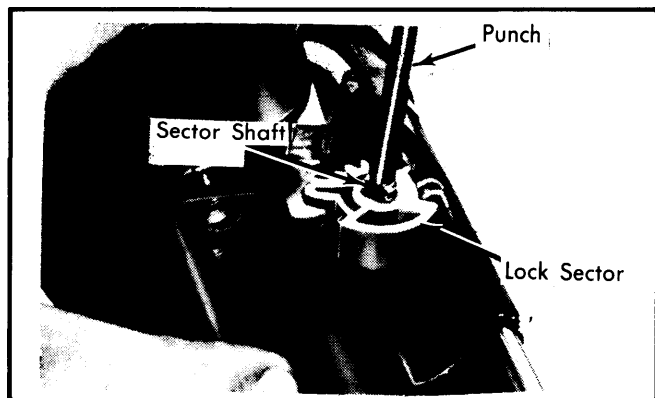

Fig. 17 Removing Lock Sector and Sector Shaft
9) Remove tilt lever and shield from housing. Remove lock sector spring retaining screw and spring. Rotate spring clockwise to remove. Remove lock sector retaining ring, lock sector and sector shaft. Tap shaft through sector and out of housing with a hammer and punch. See Fig. 17.